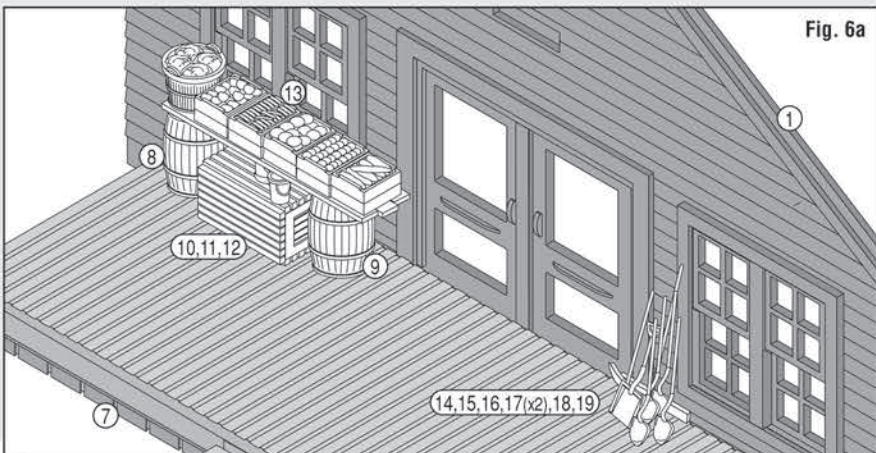

Fig. 6a
- Glue Porch (7) to Front Wall (1).
- Attach Bucket 1 (11) and Bucket 2 (12) to Wooden Crate (10). Glue Barrel (8), Wooden Crate Assembly (10,11,12) and Barrel (9) to Porch (7), then attach Crates of Produce (13). (Fig. 6a)
- Attach Broom (14), Shovel (15), Shovel (16), Shovels x2 (17), Spade (18) and Pick Axe (19) (Fig. 6a).